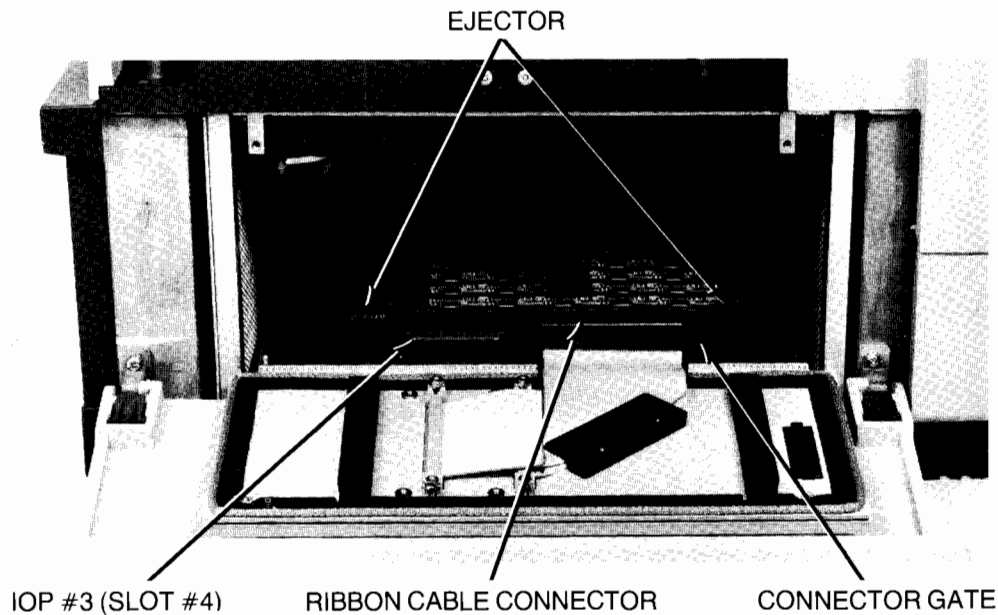

Figure 4-18. Removing Upper Board, View 2
5. Pull out on board ejectors to release board from stack motherboard (Figure 4-18) and slide the board out of the slot. If IOP finstrate (slot #4) is being removed, pull out on ejectors, slide board slightly out, open connector gate, remove ribbon cable connector (Figure 4-18), and then remove board from stack.